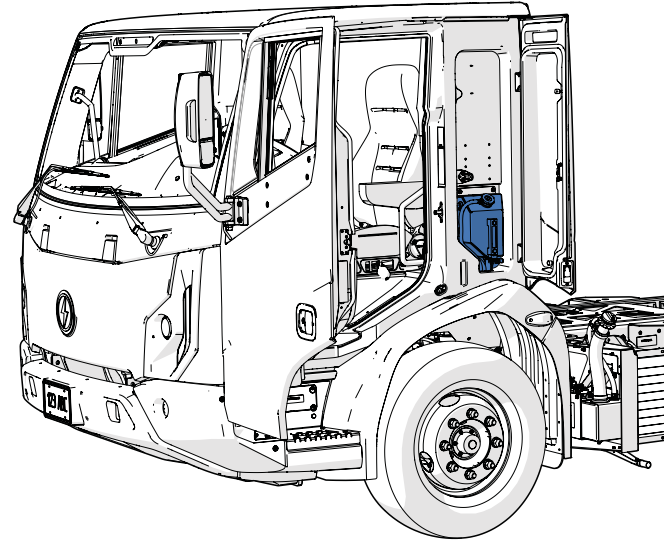

Figure 21 - BTMS reservoir
3. The battery thermal management system (BTMS) reservoir (**Figure 21**) contains a special low-conductivity coolant fluid (light blue in color).